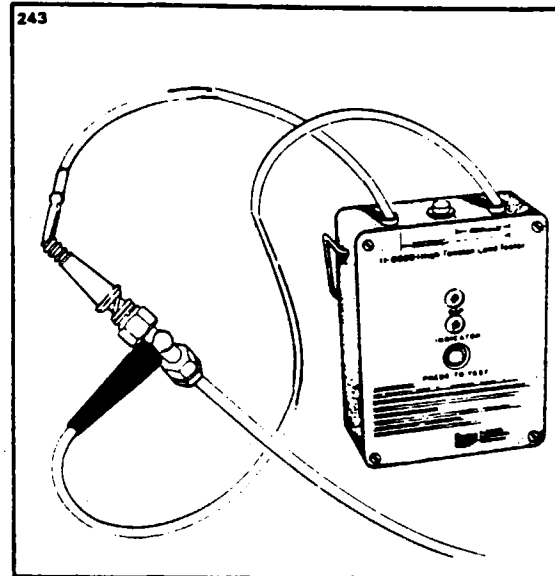

Figure 8-28. Checking Harness Lead Insulation Resistance
1. Attach the red high voltage test lead to contact spring of harness lead. (Refer to Figure 8-28.)
2. Attach the black test lead to the ferrule of the same harness lead. (Refer to Figure 8-28.)